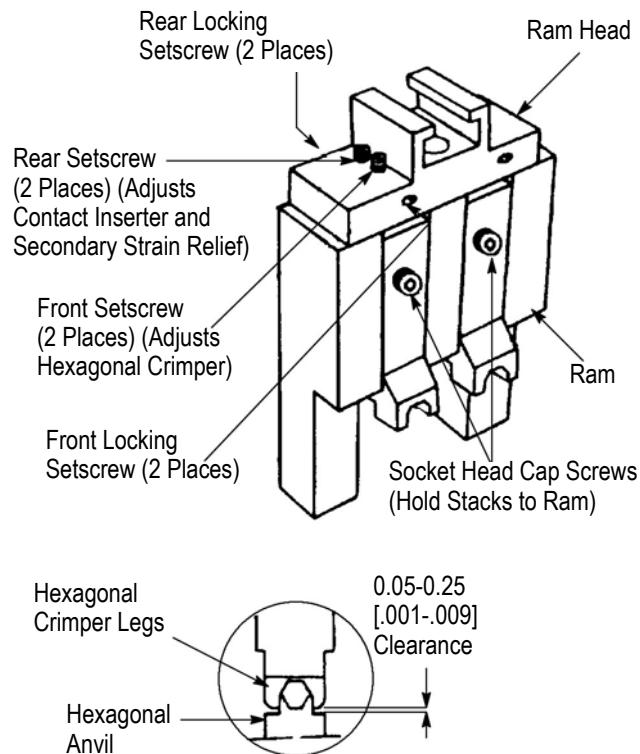

Figure 3
If adjustment is required to obtain proper crimp height, refer to Figure 3 and the applicable application specification, and proceed as follows:
3. Check the clearance between the hexagonal crimp legs and the hexagonal anvil with a piece of thin paper. Clearance must be within the dimensions given in Figure 3. If adjustment is required, slightly loosen the socket head cap screws at the front of the ram and the front locking setscrews at the front of the ram head. Then rotate the front setscrews to adjust the hexagonal crimp.